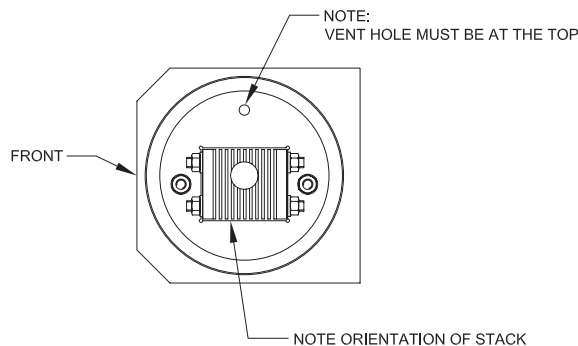

Figure 4.1
- g. Position the replacement chassis with positive end leading (marked on end stud) and partition orifice (holes) and electrodes as shown in figure 4.1